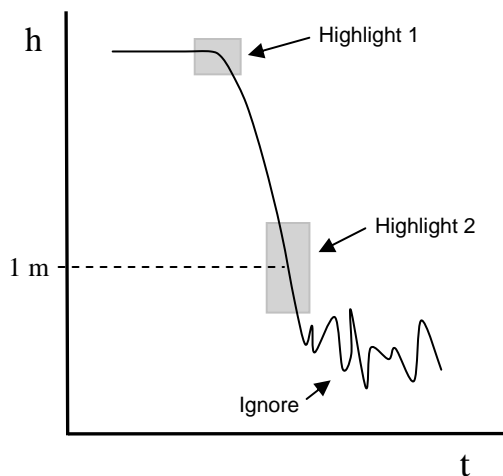

FIGURE 3
C) Move both chairs away from your table. Have the shorter person from your group stand close to the computer so there is no interference with the motion sensor. Have the taller person hold the bag directly below the sensor (but not closer than 0.40 m). Push COLLECT on the computer and watch the screen until you see a line on the graph. When you see a *horizontal* red line release the bag by letting your hand fall away from it. NOTE: It helps to hold the bag at your fingertips. Also, do not throw the bag up first. You may want to practice this a few times before you take your data. You should get a nice smooth curve on your graph like in **Figure 3** (the “highlight” stuff comes later). If you can’t get a nice curve then grab your TA for help.
F) Highlight the graph in the area for when you released the bag. **See Highlight 1 in Figure 3.** There are two shades of highlighting on this software. The darker shade should be like the one in the figure above. This happens when you move the mouse in 2 dimensions on the screen.
H) Highlight the graph in the area for when the bag is at 1 meter. **See Highlight 2 in Figure 3.** Make sure you highlight the line from *at least* 1.2 m to 0.8 m.